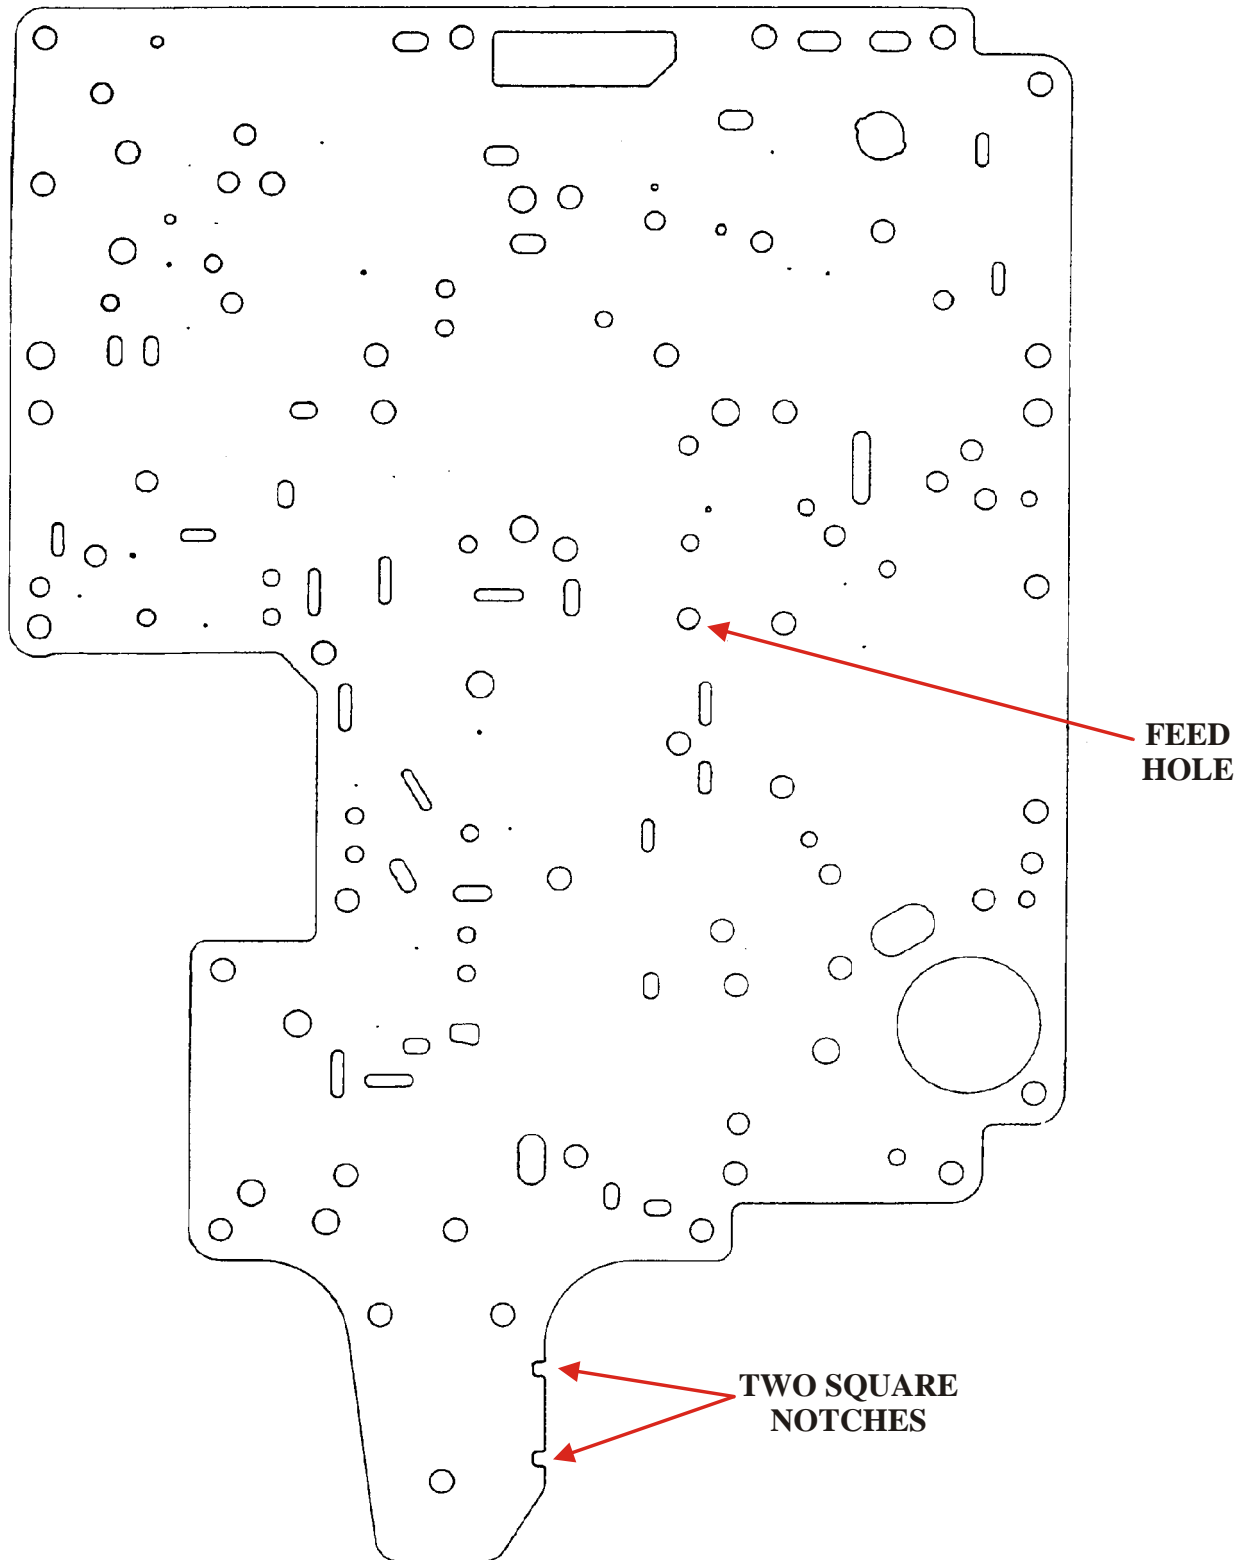

Figure 1
- (1) MAIN VALVE BODY SPACER PLATE - Can be positively identified by the solenoid feed hole location, as shown in Figures 1 and 2. Can also be identified by the shape of the I.D. notches in the spacer plate, as shown in Figures 1 and 2.
- (2) VALVE BODY GASKETS - Must have solenoid feed hole locations in the gaskets that match the solenoid feed hole locations in the spacer plate, as shown in Figures 1 and 2.